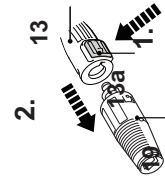

Fig. 34
8. Press the unlock button (13a) and disconnect vario nozzle (19) (Fig. 34) or the rotary nozzle (14) from the extension lance (13) (Fig. 35).